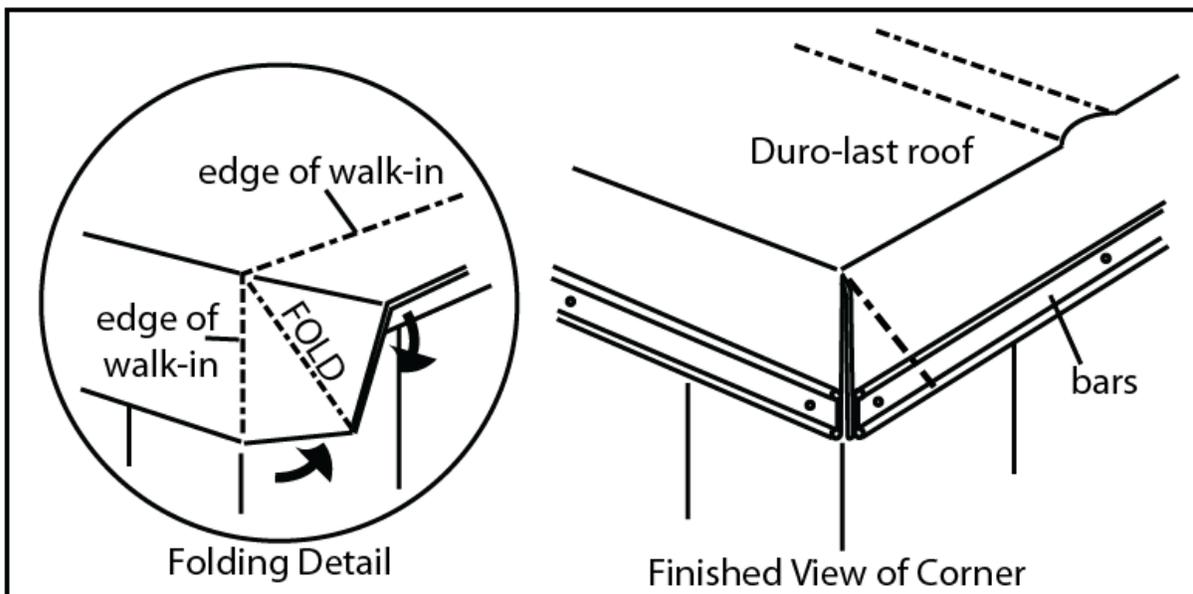
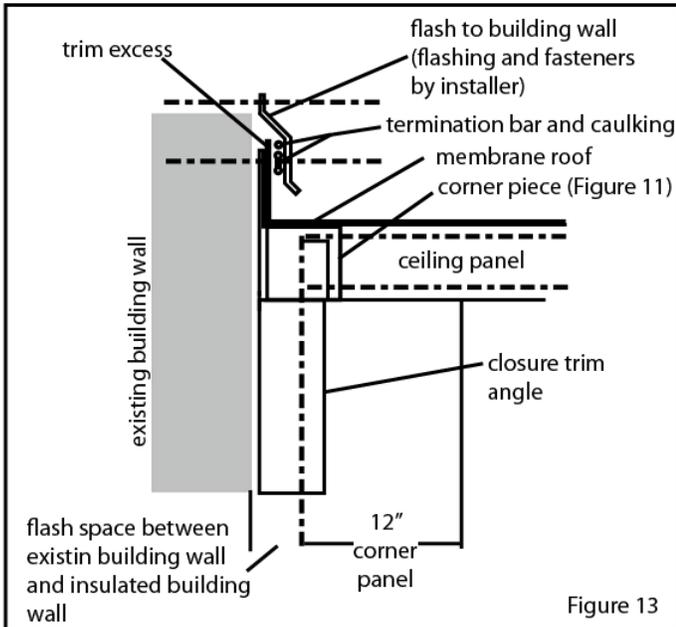

Figure 7
Figure 13
5. Flash roof material to building wall following Figure 13.
7. Flash roof material to building wall following Figure 13. See Figure 7 for method of folding corner.